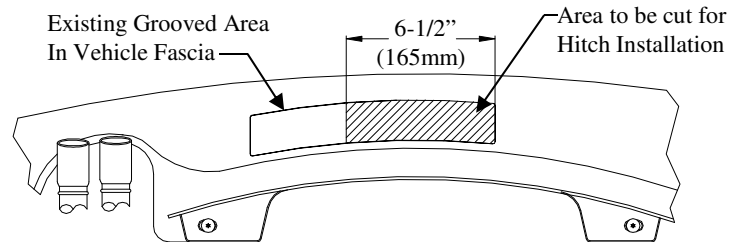

Figure 2
1. Locate existing grooved area on bottom of fascia to be cut as shown in Figure 2. Cut fascia as shown to access mounting holes in vehicle cross member.